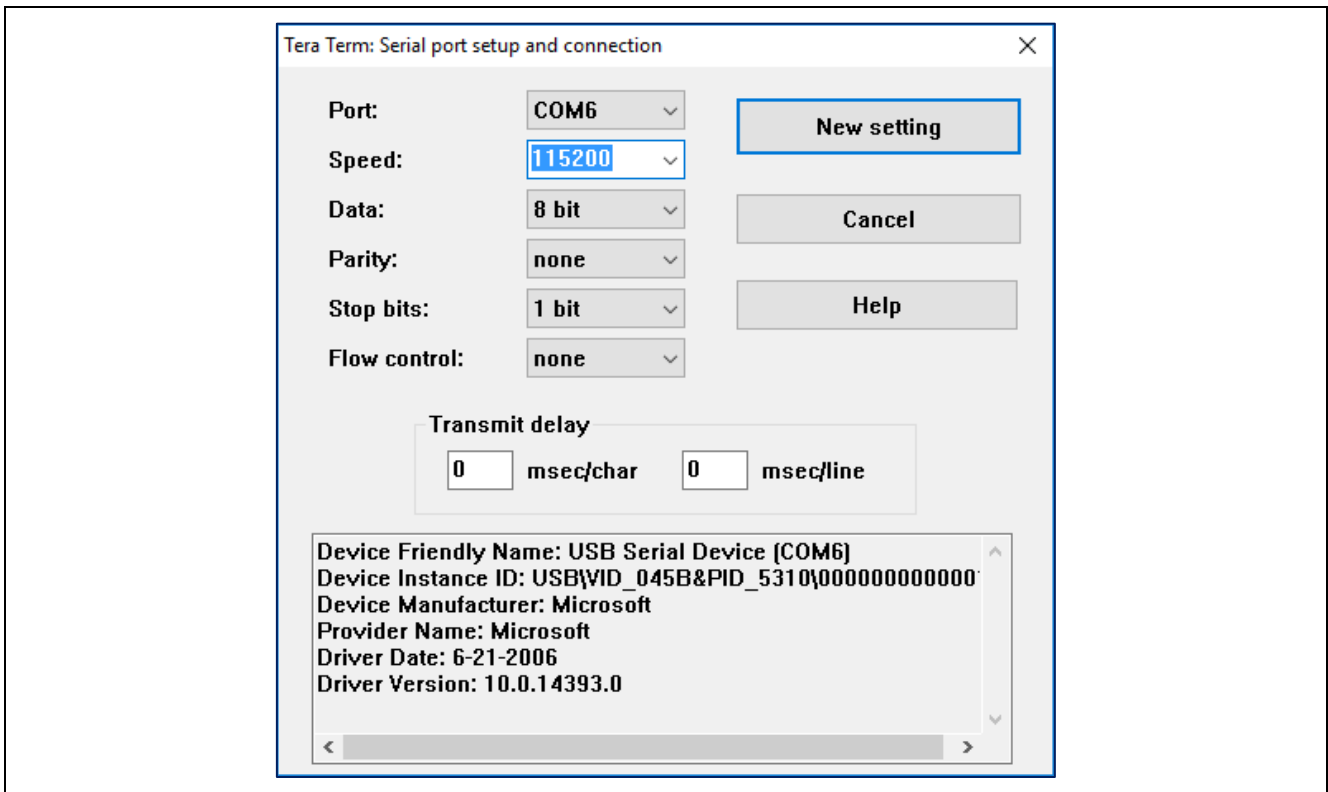

Figure 7. Selecting 115200 on the Speed Pulldown
- Using the **Setup** menu pull-down, select **Serial port...** and ensure that the speed is set to **115200**, as shown in Figure 7.